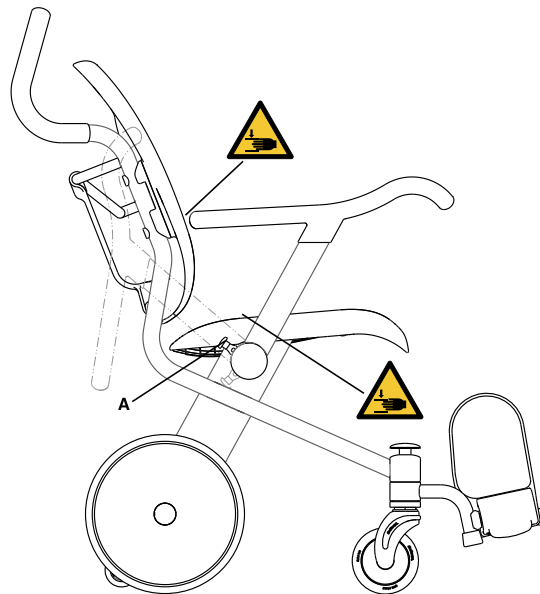

Figure 11: Pinch points when raising armrests and lowering armrests
To raise the flip-up armrests (rear position), pull outward on the yellow armrest release button (A) and raise the flip-up armrest until the armrest reaches the hard stop (Figure 11 on page 22).
To lower the flip-up armrests (forward position), make sure that the occupant is clear of the flip-up armrest. Lower the flip-up armrest into the forward position until the armrest latches securely (Figure 11 on page 22).